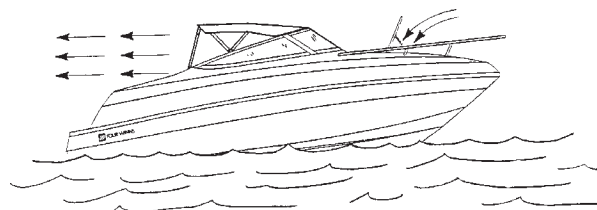

Figure B10: Desired air flow through the boat.
4. Opening and closing ports, hatches, doors, and windows may raise or lower CO levels on board a boat. When airflow is moving forward inside the boat, CO may be entering the boat. See Figures B10 and B11.